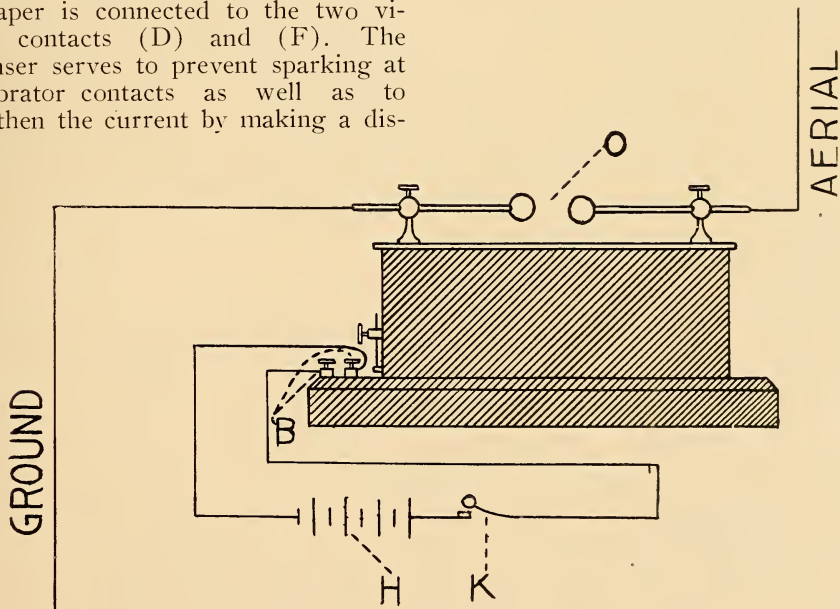

FIG. 2. WIRELESS TRANSMITTING APPARATUS COMPLETE.
The sending end is now complete as shown in Fig. 2. The adjustments and working will be taken up later on.
By pressing the telegraph key at the sending station the battery circuit is closed which allows the current to flow around the primary winding, energizing the core and starting the vibrator in operation. At each swing of the vibrator the high frequency current is induced in the secondary, which flows out at the terminals to the spark gap (O), Fig. 2. In breaking down the high resistance interposed by the air in the spark gap a wave motion is set up which oscillates up